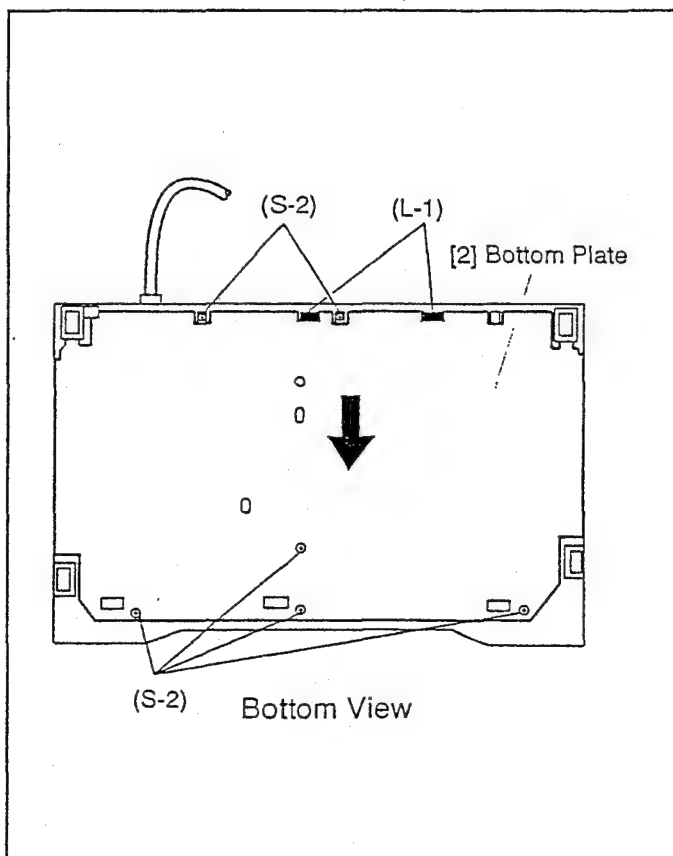

Fig. 2
2. Bottom Plate Removal. (Fig. 2)